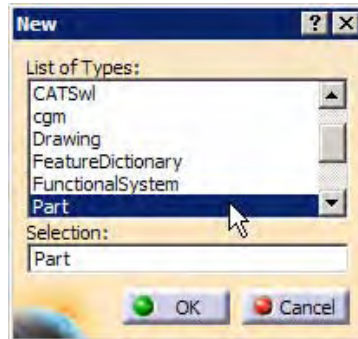

Figure 1-33 Selecting **Part** from the **New** dialog box
- On choosing **Close** from **File** menu, the start screen of CATIA V5 is displayed. Choose **Start > Mechanical Design > Part Design** to make sure that you are in **Part Design** workbench. To open a new file in **Part Design** workbench, choose **File > New** from menu bar. The **New** dialog box is displayed, as shown in Figure 1-33.